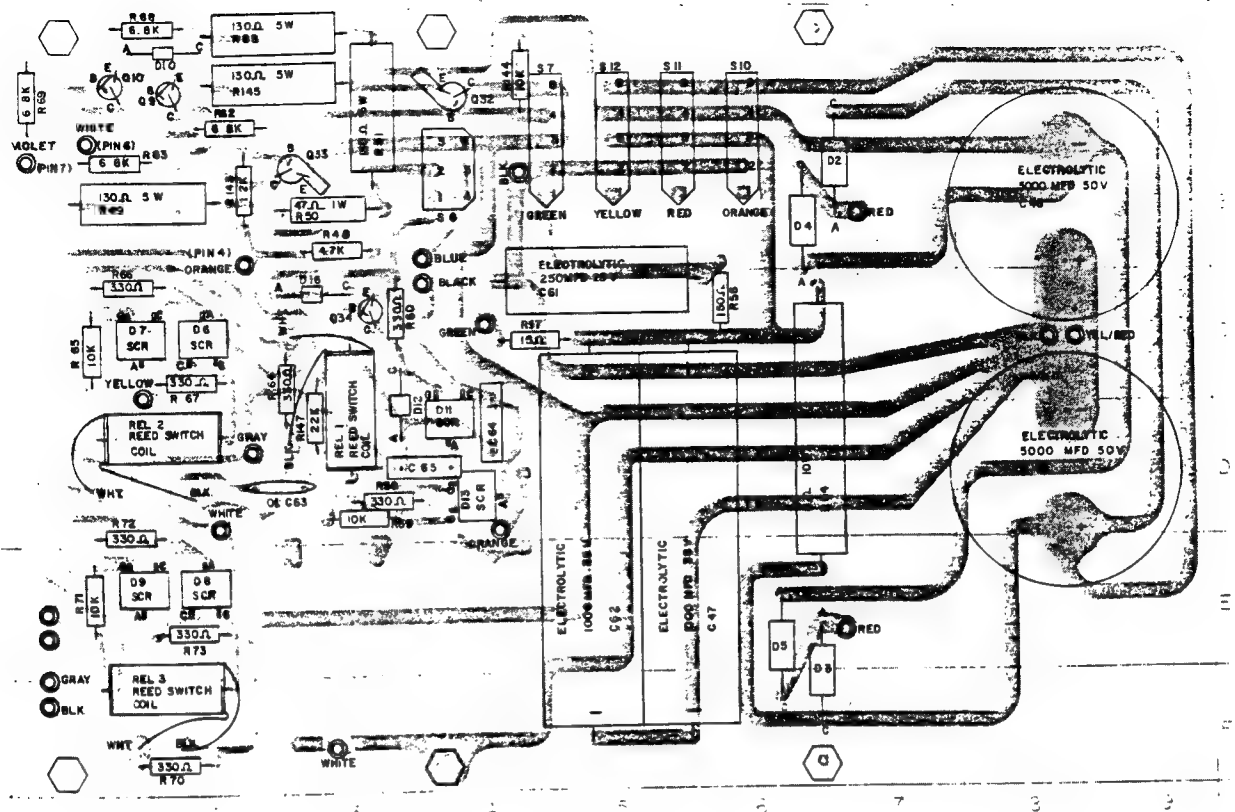

Fig. 9
2. Remove all leads attached to the circuit board (Use Fig. 9 as a reference when rewiring.)